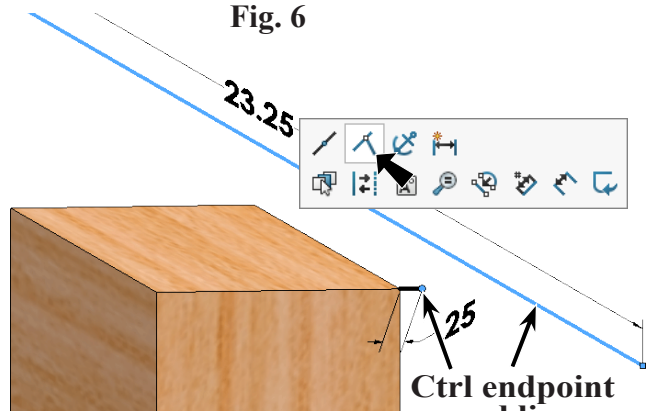
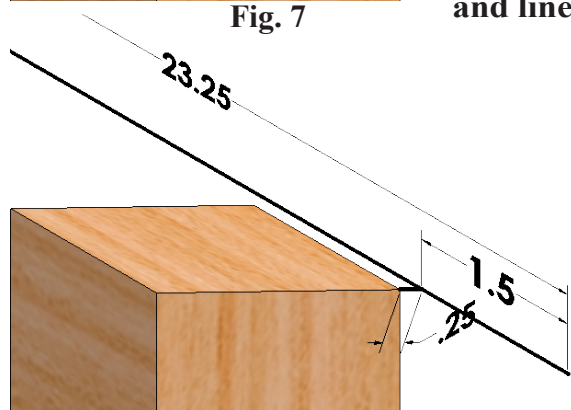

Fig. 7
Fig. 8
Step 18. **Ctrl click endpoint of short line and long line. Release Ctrl key and click Make Coincident**  on the context toolbar, **Fig. 7**.
Step 19. Click **Smart Dimension**  (S) on the Sketch toolbar.
Step 20. Add **1.5** dimension, **Fig. 8**. Before adding dimension, you might have to zoom out, use Z key, and drag left endpoint out to left.
Step 21. Click **Zoom to Fit**  (F) on the View toolbar.